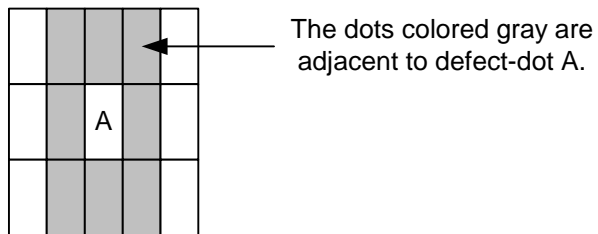

Fig 12.5
- The definition of adjacent dot is shown as Fig. 12.5.